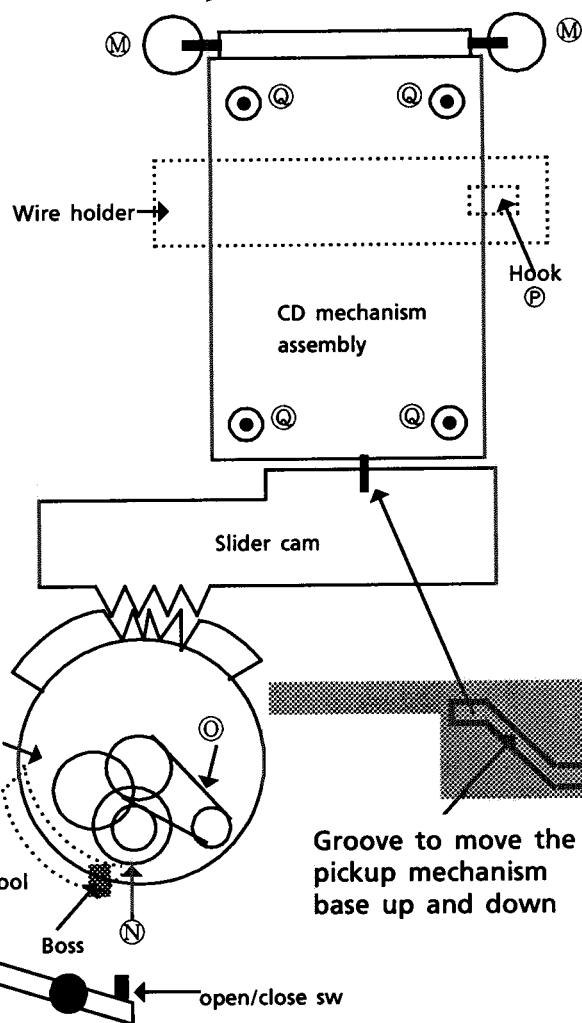

Fig 7 Loading mechanism
4. Remove the gear ④(Fig. 7).
5. Remove the loading belt ⑤(Fig. 7).
5. Remove the hook P fixing the table mechanism base, and remove the wire holder (Fig. 7).
6. Remove the 2 screws M (Fig. 7).
7. Remove the 4 screws Q (Fig. 7).